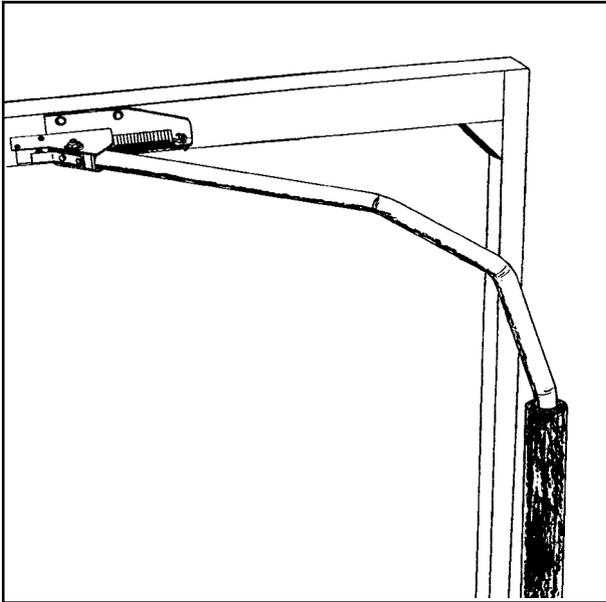

Fig. 5-1
- 5.4 It consists of a releaser hoop that activates a small electric switch. (See fig. 5-1).